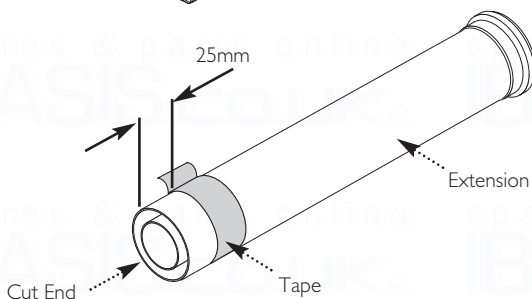

Fig. 45
16. Measure 25mm from the end of the flue extension and apply a length of tape around the outer duct (Fig. 45).